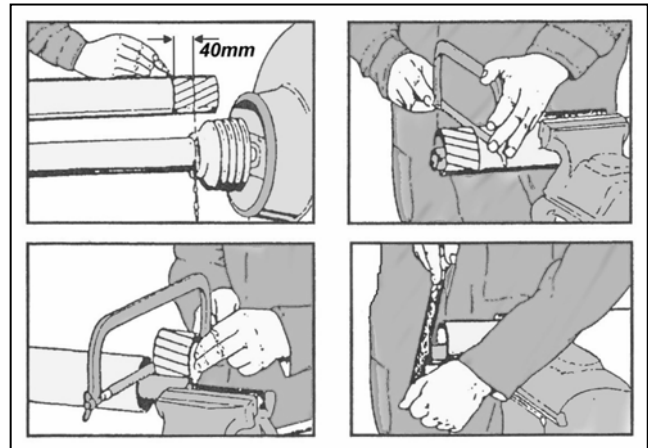

Figure 8
1. Shorten outer plastic tube to 40mm less than the shortest envisaged shaft length as illustrated (Fig.8).